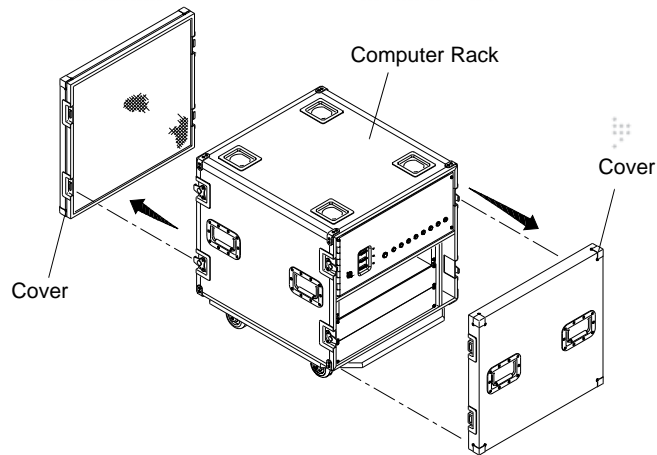

Figure 1-7: Removing Covers from V676 Computer Rack
Step 8. Remove covers from computer rack (Figure 1-7).